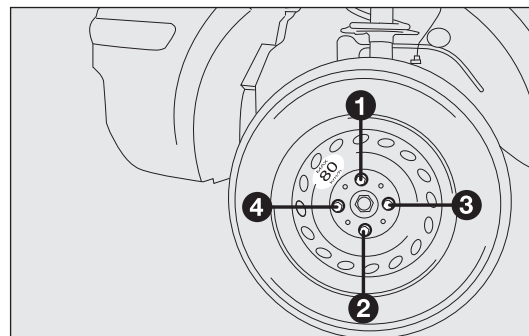

fig. 155
- ❑ use the wrench provided to fasten the bolts completely in a criss-cross fashion as per the order illustrated in fig. 155;